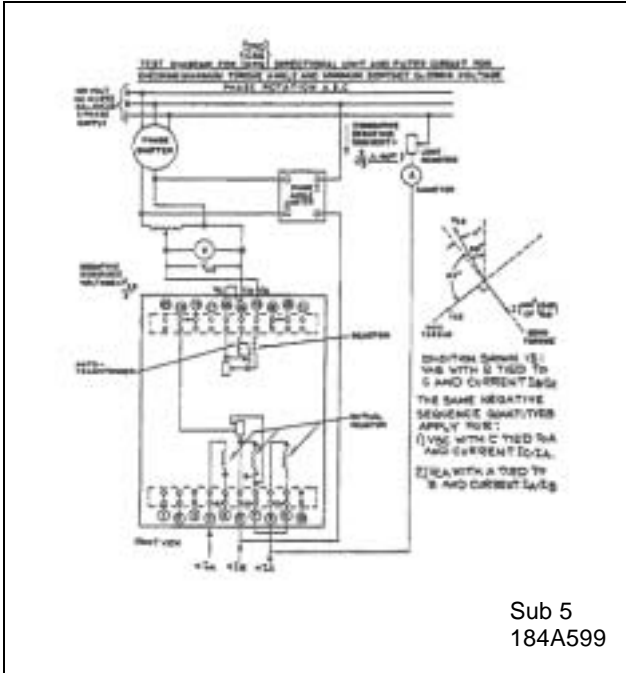

Figure 1 2 .Test Diagram for Checking Maximum Torque Angle and Minimum Voltage for Contact Closure of the Directional Unit.
- Using a calibrated high resistance voltmeter, measure the voltage between the tap on the auto-transformer (middle terminal, lower-right hand reactor, rear view of Figure 1 and the tap on the adjustable 2" resistor on the upper right hand corner of Figure 2. If the voltage is high (40 to 50 volts) the filter is probably improperly connected, the voltage will be low. Using a low range (approximately 5 volts) move the adjustable tap until the voltage reads a minimum. This value should be less than 1.5 volts.